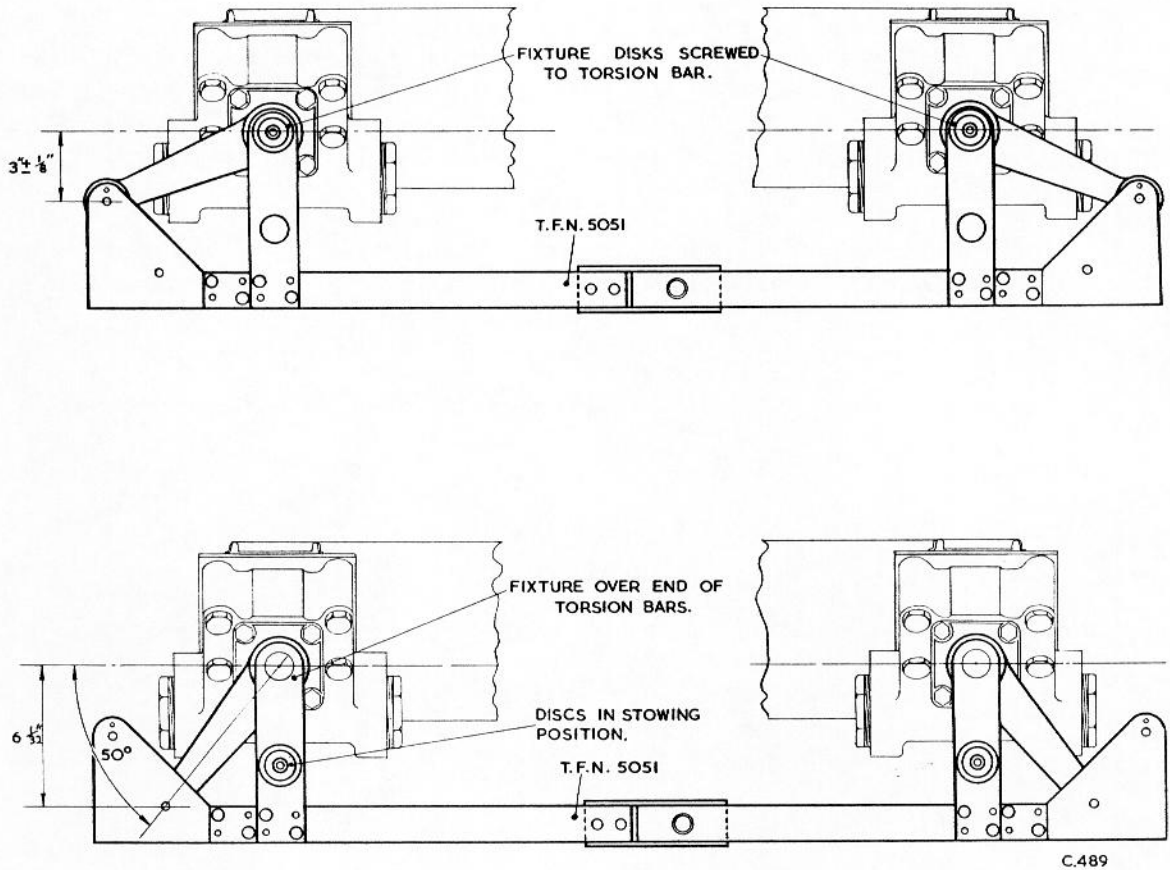

Fig.27 Setting torsion bars.
The petrol tank should be empty for this procedure. It is recommended that the fixture TFN.5050 is used; this fixture is shown in position in Fig. 27. Note that the fixture discs are employed during the checking procedure. Provided the setting is within the limit of 3 in.  $\pm \frac{1}{8}$  in. (7.62 c.m.  $\pm$  3.18 m.m.) and that this is identical on both sides of the car, no adjustment is required.
1. Locate the setting fixture TFN.5050 over the serrated end of the bars as shown in Fig. 27.
Torsion bar adjusters as illustrated in Fig. 31 are available; these easily replace the fixed sockets and enable any adjustment to be made without difficulty. When the adjusters are fitted, it is advisable to have the initial torsion bar setting made with the setting fixture TFN. 5050 (see Fig. 27) with the setting screw on the adjuster in its lowest position. This will permit the full adjustment to be used when it is required.